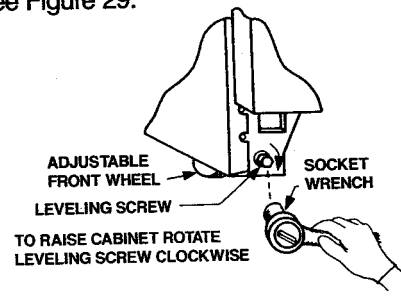

FIGURE 29
rear wheels. Adjust the front wheels or leveling feet to level the refrigerator. To raise, turn screw or leveling feet clockwise. To lower, turn counterclockwise. See Figure 29.
- A. Lower the front roller (turn the screw clockwise one turn at a time) on the side of the refrigerator which has the lower door. See Figure 29.